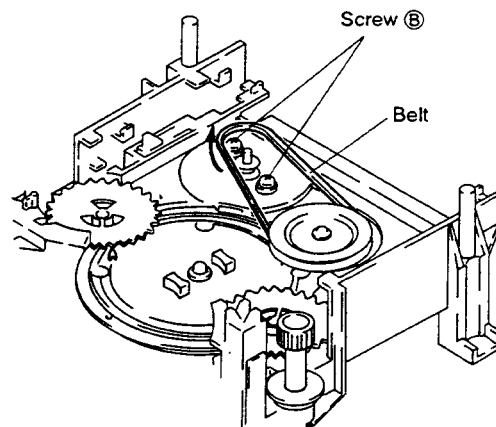

Fig. 1-6
- (1) Remove the tray I. (Refer to 1.1, REMOVAL OF TRAY I)
- (2) Set the tray II to the OPEN position. (Refer to 1.2, REMOVAL OF TRAY II (1))
- (3) Remove the belt and two screws ②, shown in Fig. 1-6.